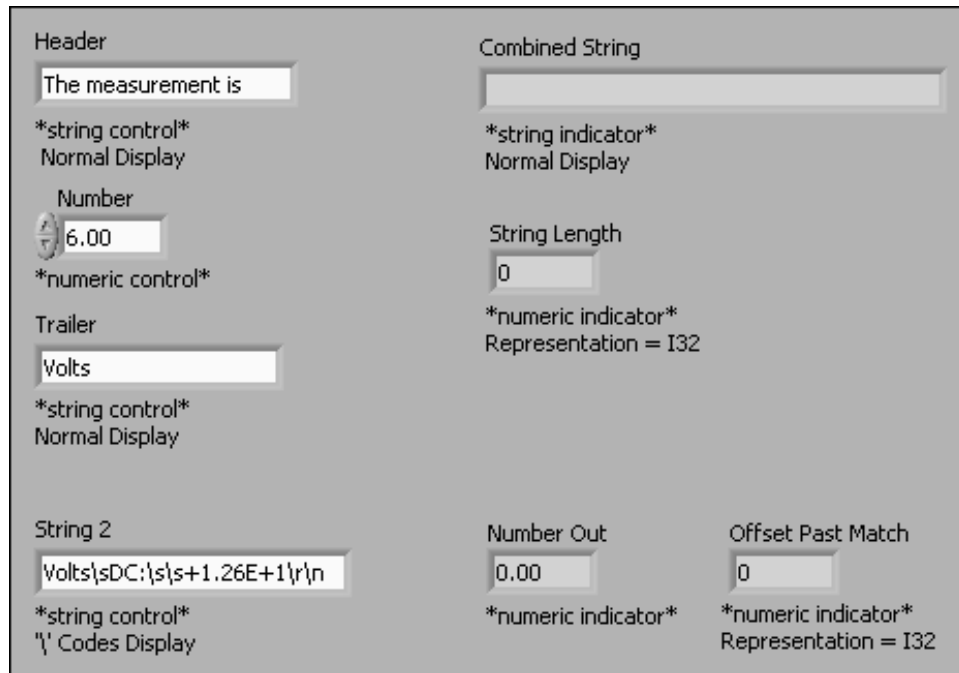

Figure 9.6
1. Open a blank VI and build the front panel shown in Figure 9.6. Do not add labels for the comments; they are shown for informational purposes only.